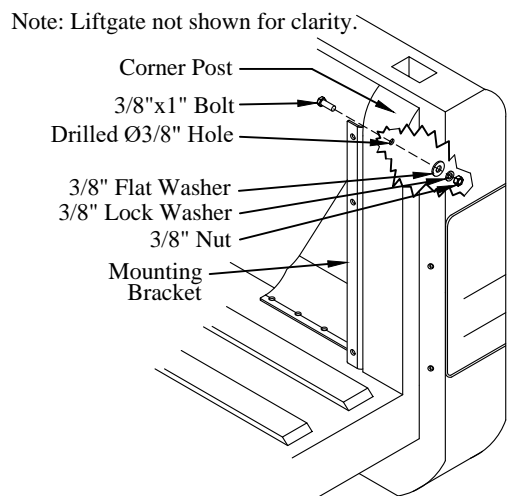

Figure 10: Mounting bracket and backer plates.
- (1) backer plate, (2) lock washers, and (2) hex nuts on the under-side.
9. **Drill** one (1) 3/8" hole into the truck corner post using hole in the bracket as a guide (Figure 10).
10. **Fasten** each bracket to the truck corner post using the supplied (Figure 10):